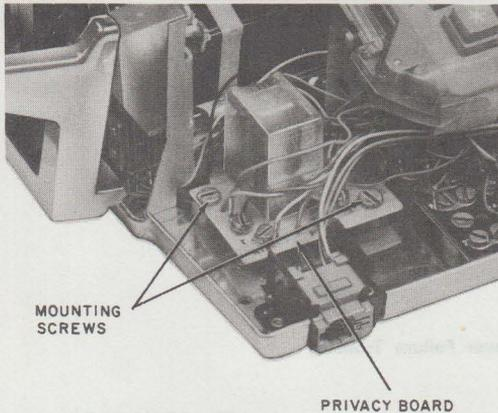

Fig. 40—Privacy Circuit Mounted in Telephone Set
- (1) Remove faceplate.
- (2) Mount privacy circuit board on the two standoffs located at the left front of the telephone set base (Fig. 40).
- (3) Fasten privacy circuit board to standoffs using mounting screws furnished with the telephone set.
- (4) Connect leads according to Table E.
- (5) To test privacy circuit: